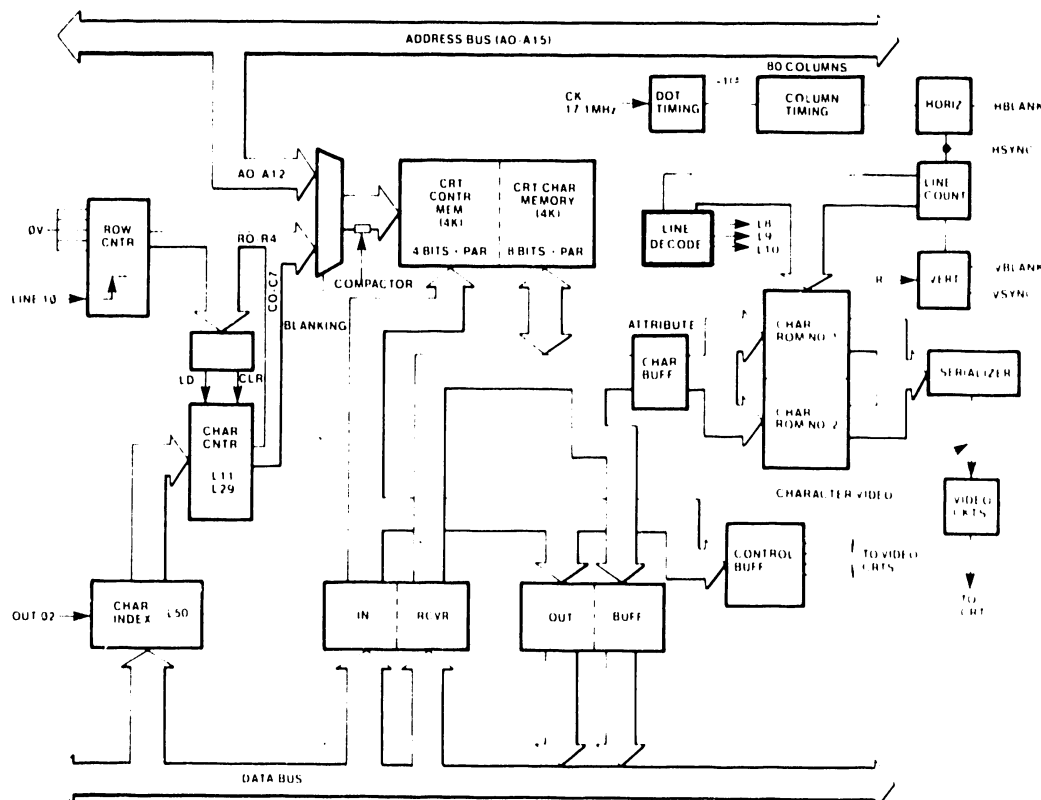

Figure 2-2. Video Display and Control Block Diagram
2.3.1.1 Video Display Logic (Figure 2-2)